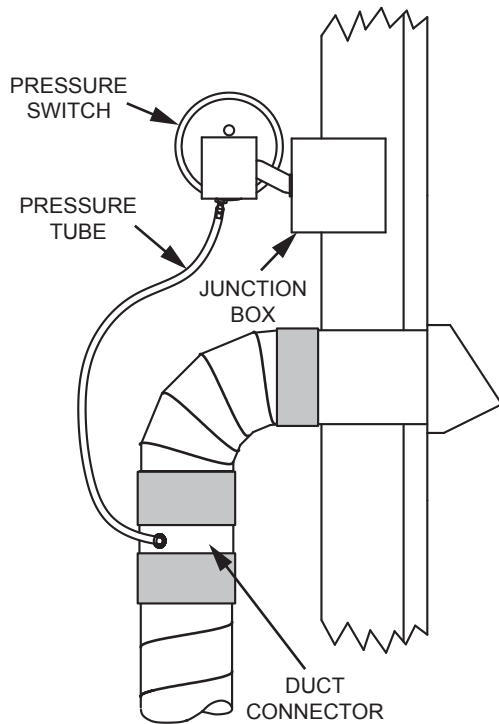

Figure 27.
3. Connect the pressure tube to the fitting on the air switch diaphragm. See Figure 27.